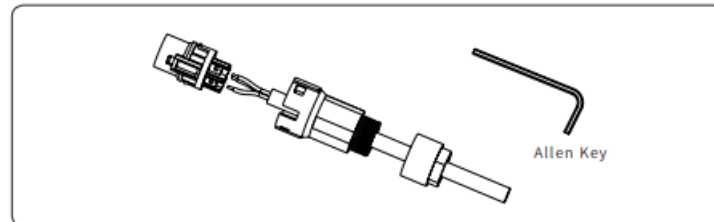

Figure 4-16
3. Insert the stripped end of each three wire into the appropriate hole of the terminal head (yellow green wire to PE port, red or brown wire to L port, and blue or black wire to the N port). Please try to pull out the cable to make sure it is well connected. As shown in Figure 4-16: